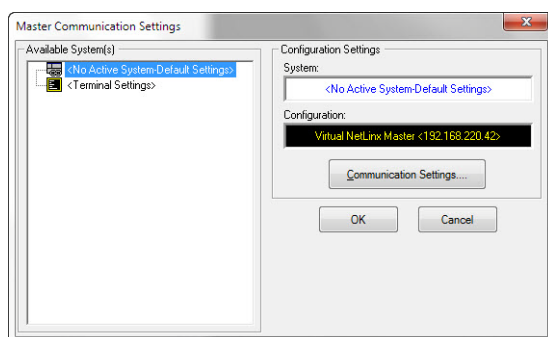

FIG. 17 Master Communications Settings dialog box
2. Launch NetLinx Studio and select **Settings > Master Communication Settings** from the Main menu to open the *Master Communication Settings* dialog (FIG. 17)